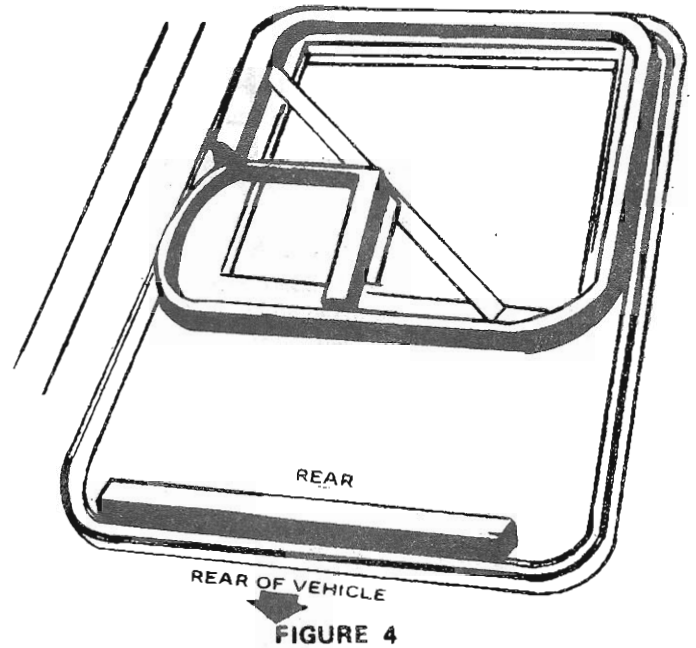

FIGURE 4
4. Place roof flashing, with the marking "REAR", (towards rear of vehicle). Be sure flashing is positioned properly. See Figure 4. Press down on outer edges of flashing to ensure proper seal on roof.